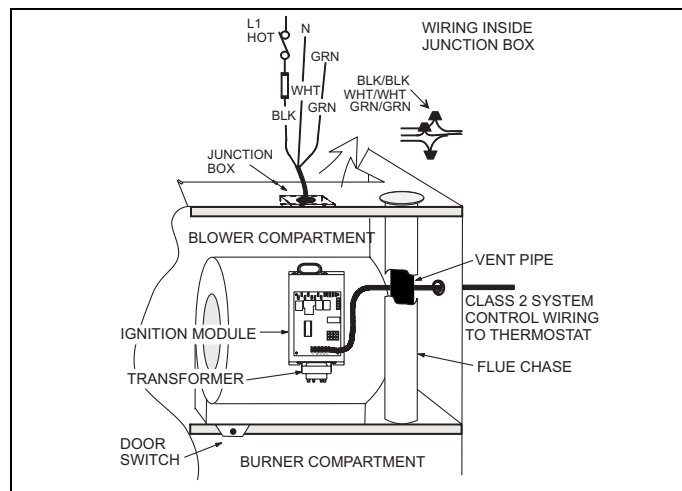

FIGURE 8: Electrical Wiring
2. Remove the screws retaining the junction box cover. Route the power wiring through the opening in the unit into the junction box with a conduit connector or other proper connection. In the junction box there will be three (3) wires, a Black Wire, a White Wire and a Green Wire. Connect the power supply as shown on the unit wiring label on the inside of the blower compartment door or Figure 8. The black furnace lead must be connected to the L1 (hot) wire from the power supply. The white furnace lead must be connected to neutral. Connect the green furnace lead (equipment ground) to the power supply ground. An alternate wiring method is to use a field provided 2" (5.1 cm) x 4" (10.2 cm) box and cover on the outside of the furnace. Route the furnace leads into the box using a protective bushing where the wires pass through the furnace panel. After making the wiring connections replace the wiring box cover and screws.
3. The furnace's control system requires correct polarity of the power supply and a proper ground connection. If the power supply polarity is reversed, the control board will flash nine (9) times. The furnace will not operate until the polarity is corrected. Refer to "FURNACE DIAGNOSTICS" section of the "User's Information, Maintenance, & Service Manual" provided with this furnace for symptoms of reversed power supply polarity.